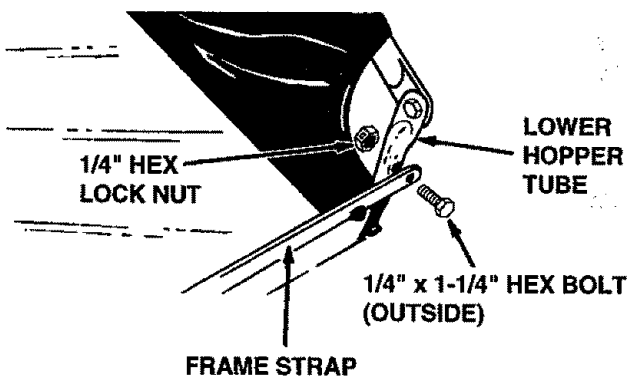

FIGURE 14
- Assemble the frame strap to the lower hopper tube using two 1/4" x 1-1/4" hex bolts and 1/4" hex lock nuts. See figure 14.